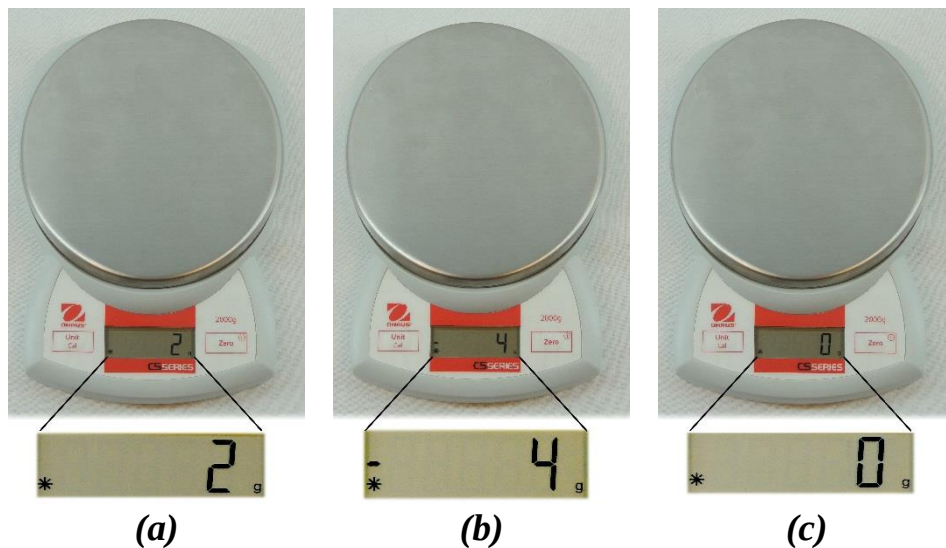

Figure 1.24: Digital balance before and after removing zero errors.
- 2- Before performing the measurement, the scale should be set to zero. If the scale is found to be reading any value (either positive or negative), press the “Zero\Power” to remove the zero error. The balance positive and negative zero errors are shown in Figure 1.24 (a) and (b) respectively, while Figure 1.24 (c) shows the digital balance after removing the zero error